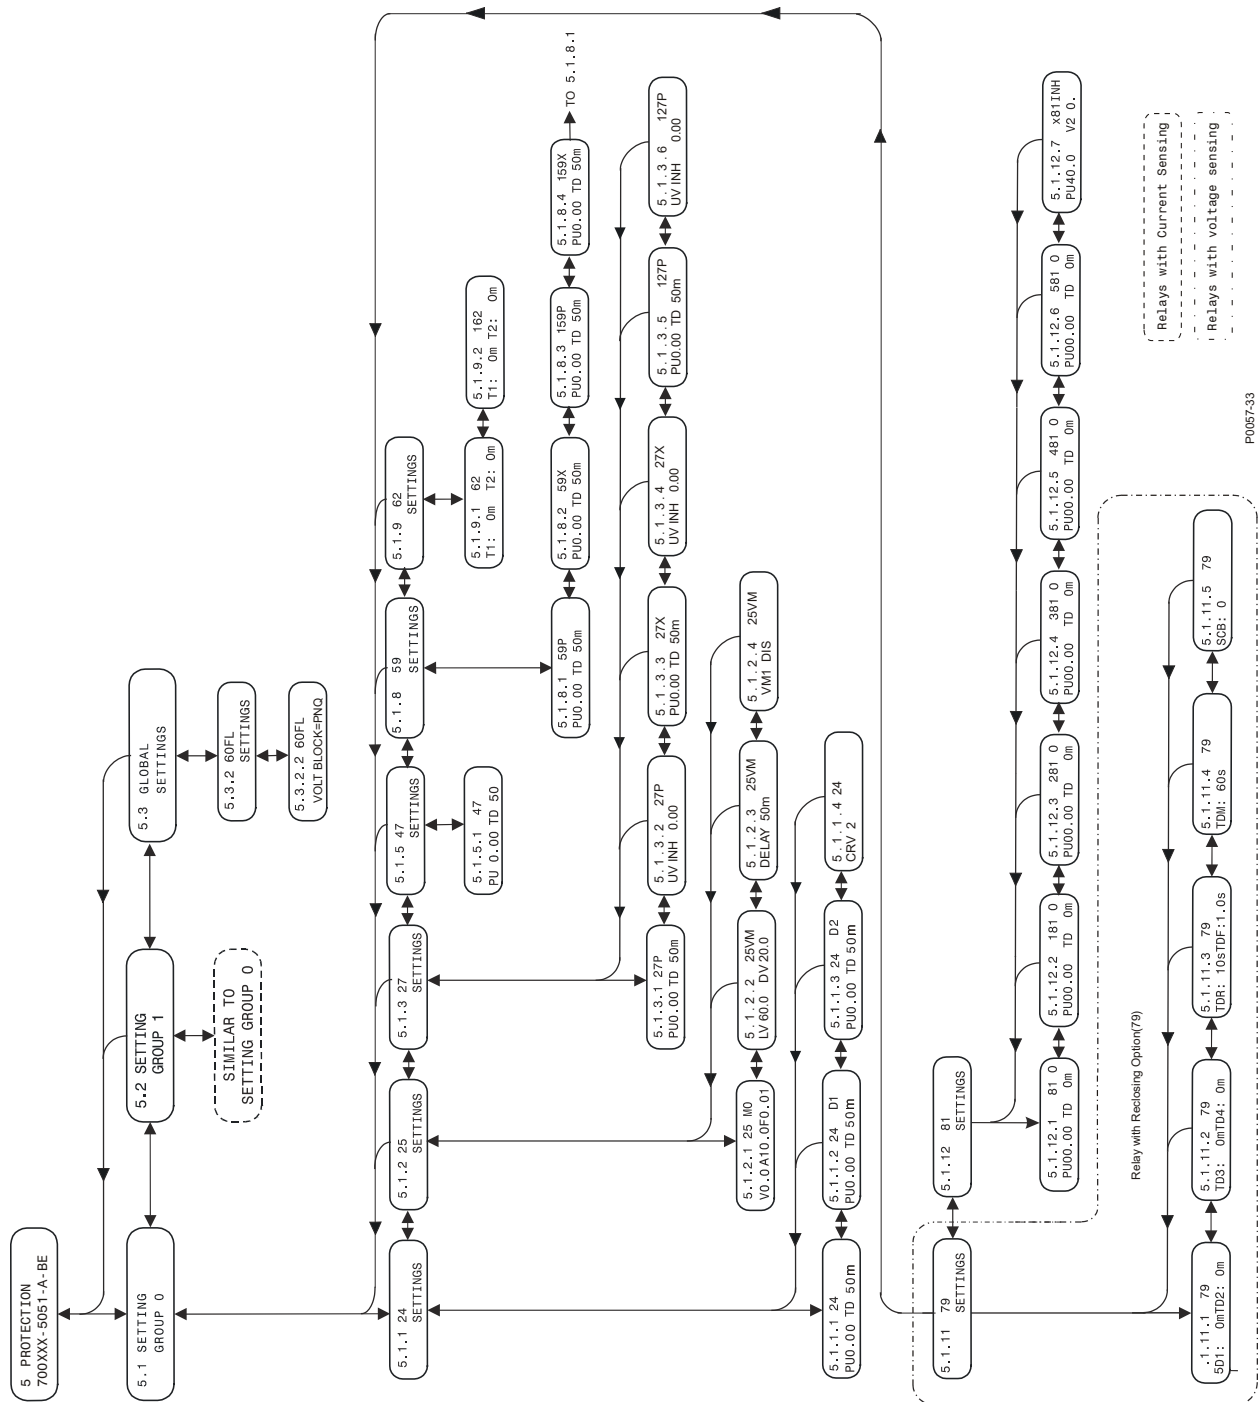

Figure 10-8. Protection Menu Branch Structure
5. PROTECTION LOGIC – Provides display and setting of protective functions such as pickups and time delays. Figure 10-8 illustrates the structure of the Protection Logic menu branch.